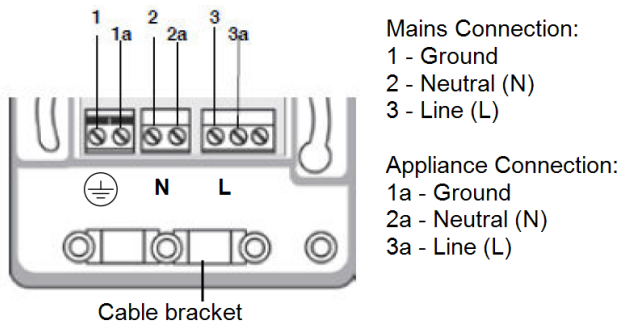
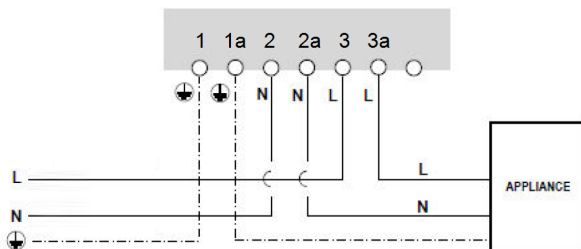

Figure 4: Smart Energy Switch connections
Figure 5: Connecting to appliance
5. Connect the load wires to the terminal blocks (see *Figure 4*, and *Figure 5*).